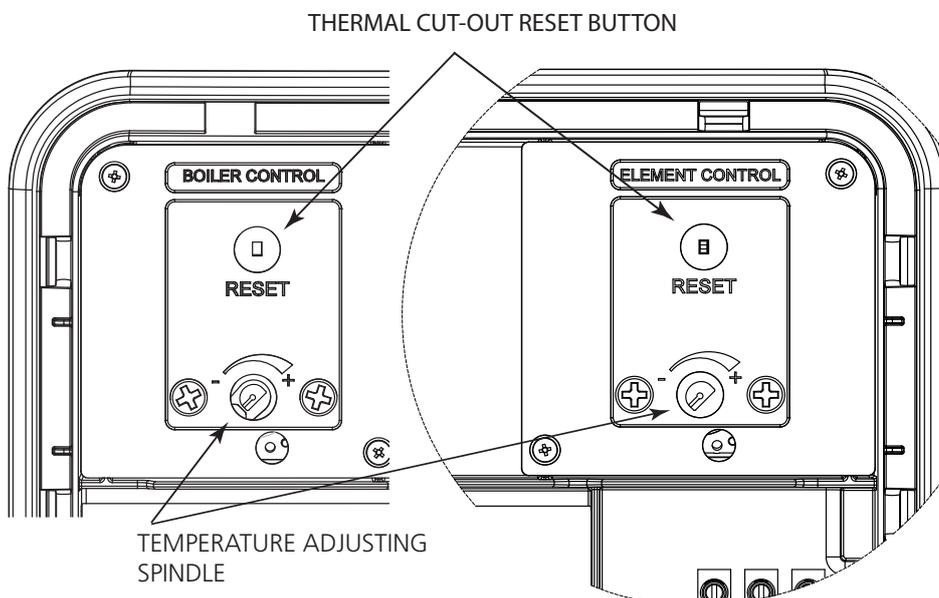

Figure 11: Thermostat adjustment
- ▶ Temperature adjustment is made by inserting a flat bladed screwdriver in the slot on the adjustment disc on top of the thermostat and rotating. The adjustment represents a temperature range of 12°C to 72°C. Figure 11, page 19.